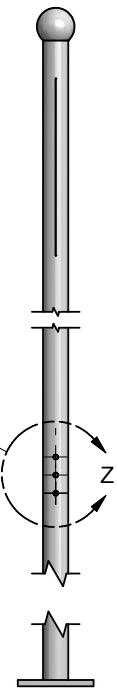

FIG. 2
2. DRILL (3) Ø3/4" HOLES AS SHOWN IN FIG. 2 DETAIL Z.